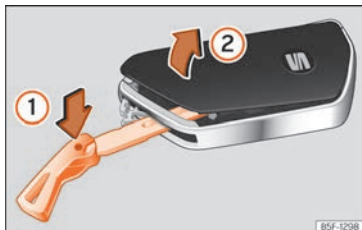

Fig. 83 Vehicle key: opening the battery compartment cover.
- Insert the key blade into the slot »» Fig. 83, press it in the direction of arrow ① and detach the cover by levering it ②.